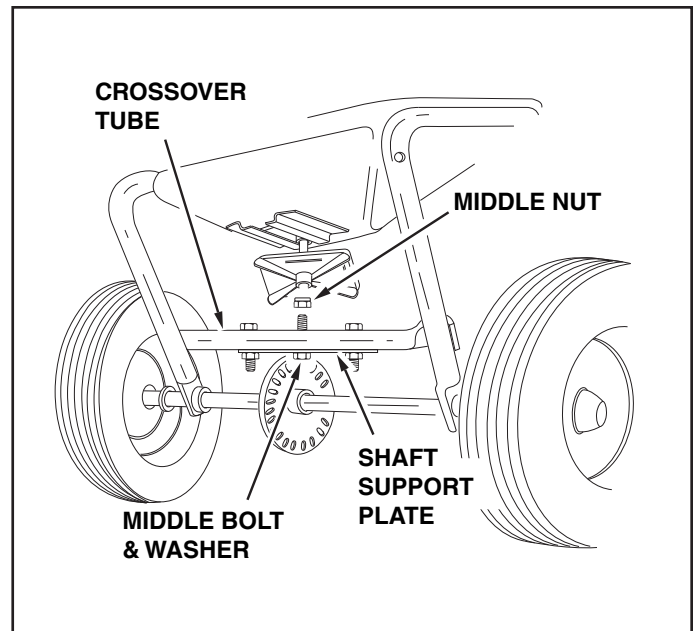

FIGURE 4
7. Remove the middle 1/4" hex bolt, flat washer and hex lock nut from the crossover tube. See figure 4.
- Place the long handle tube onto the crossover tube on the **side opposite** from the shaft support plate. Fasten with the bolt, flat washer and nut removed in the previous step. See figures 4 and 5. **Do not tighten at this time.**